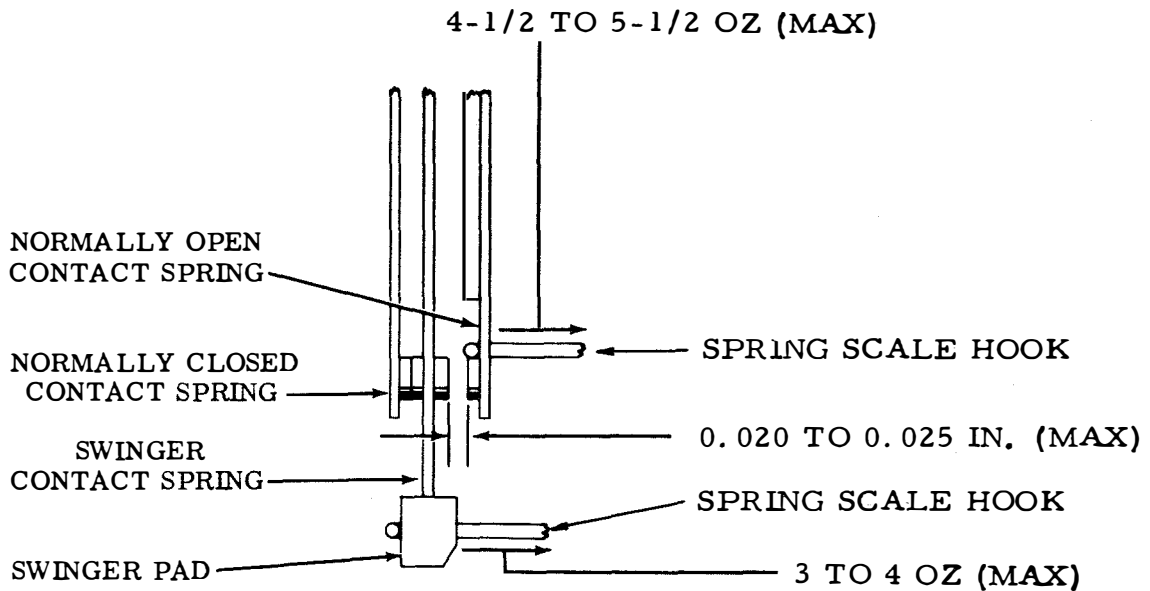

Figure 6-177. Normally-Open Contact Spring, Normally-Open Contact Gap, and Normally-Closed Contact - Rear View
(a) Refer to figure 6-177.
(3) Normally-Closed Contact. Adjust as follows:
- (a) Refer to figure 6-177.